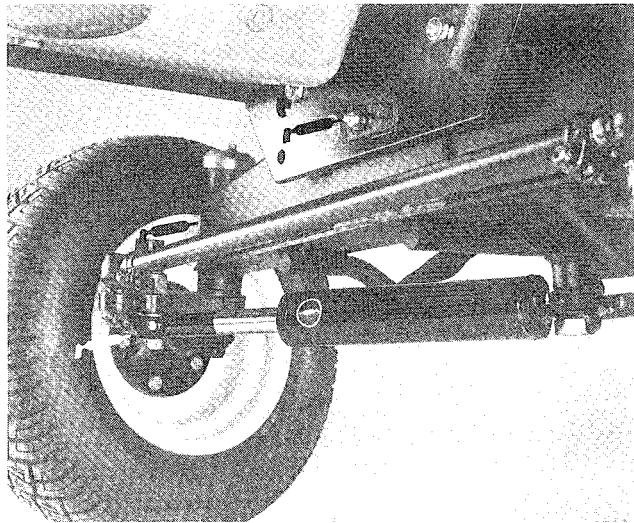
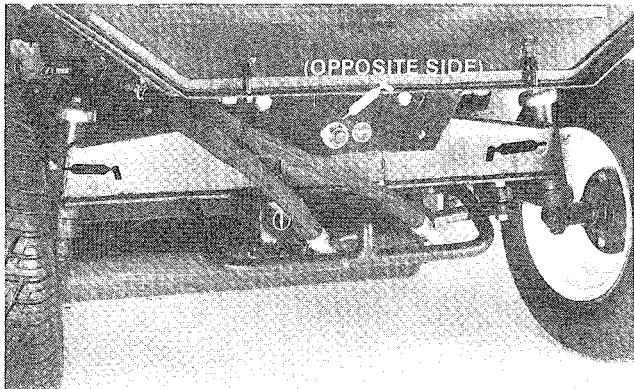

Figure 34
Figure 35
Two wheel drive machines – cylinder end (2), tie rod assembly (2) (Fig. 34); center pivot (1), spindles (2) (Fig. 35).